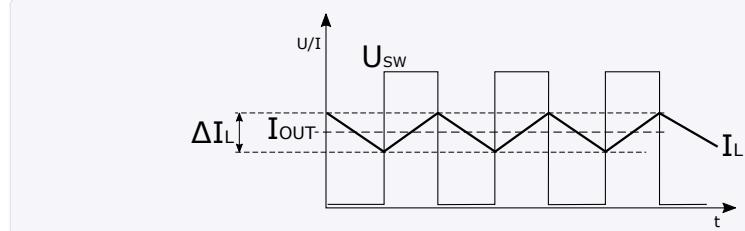

Figure 5: Voltage and current waveforms.
The inductor ripple current  $\Delta I_L$  is the difference between the minimum and maximum current through the coil. In other words, it is the peak-to-peak waveform of the average (DC) current through the coil (**Figure 5**). The current through the coil always differs from the output current by a few percent. This is why most data sheets from boost switching regulator manufacturers also provide the following approximate formula, which is fully sufficient for this LED booster circuit: